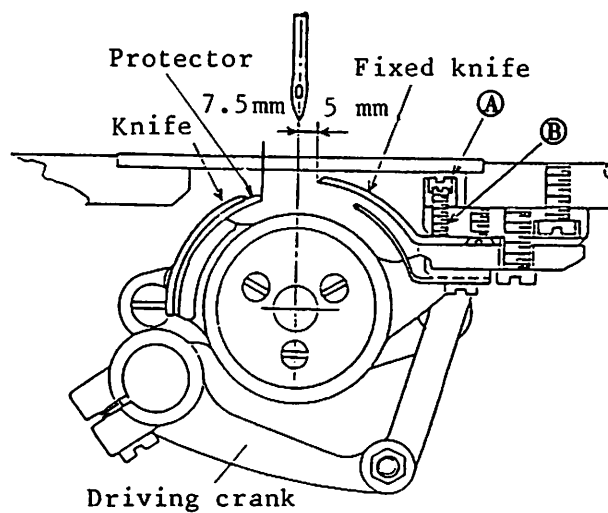

Fig. 10.10
- (1) Fig. 10.10 shows the standard installation of the knives.
- (2) If the threads cannot be trimmed satisfactorily, because of thickness, slightly increase pressure of the knife engagement.
- (3) To adjust pressure of the knife engagement, loosen lock nut (B) shown in Fig. 10.10 and turn adjusting screw (A).